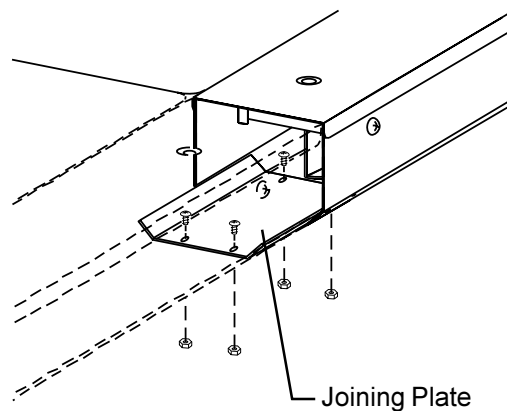

FIGURE 5
The supplied flat plate (Bin Plate) is used when two Power Bars™ are bridged together end to end as shown in Figure 5. Use #8-32 x 3/8" screws (DD) and #8-32 hex nuts (EE) to secure plate to the bin.